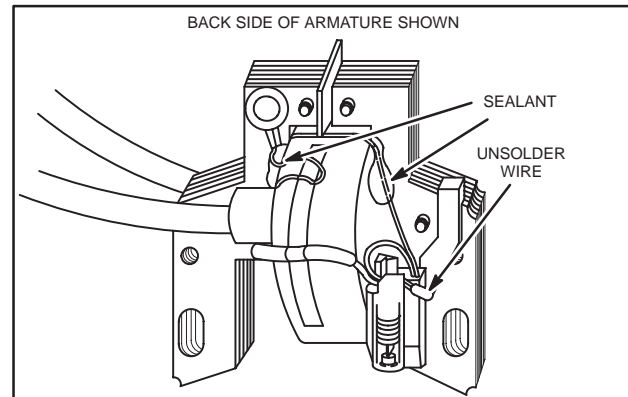

Fig. 7 – Separate Wires
4. Unsolder and separate module wire and armature primary wire, Fig. 7.